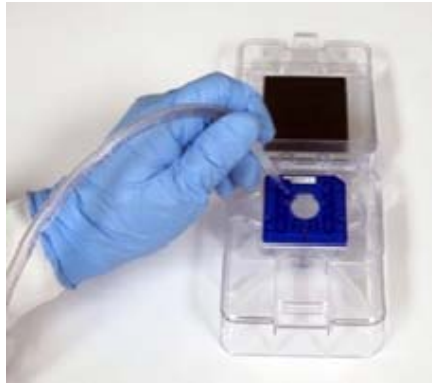

Figure 3. Using a vacuum to aspirate the chip wells is more effective than using a pipette.
- 2 Use a pipette tip attached to a vacuum line to thoroughly aspirate all fluid from the chip wells (see Figure 3). For more details on how to set up a vacuum line see page 33.